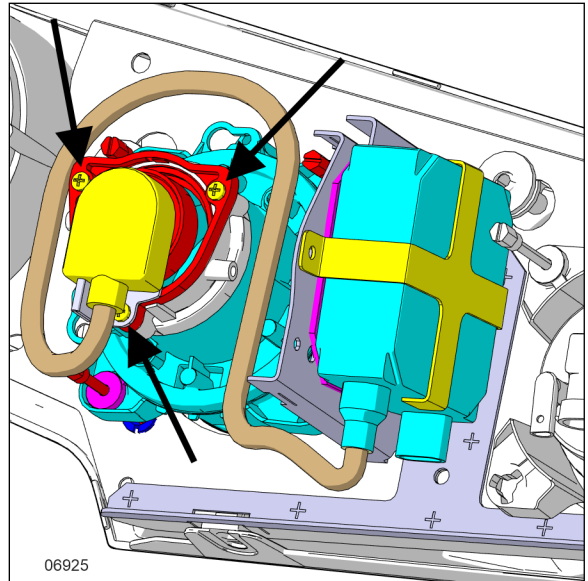

FIGURE 91: XENON HEADLAMP
3. Unscrew the three Phillips head screws (Figure 91) pull the retainer and bulb out.